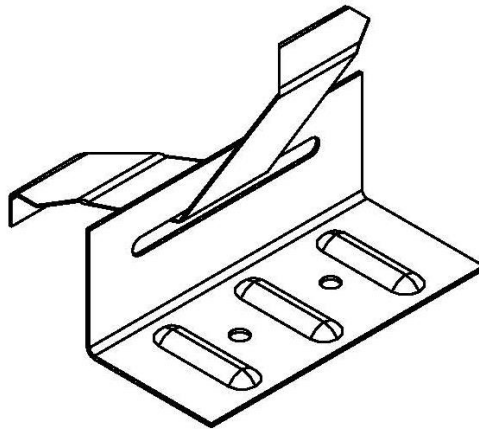

Figure 2. DMC 200S Butterfly Clip
DMC 200S Butterfly Clip (Table 1): The panels are secured to the deck with DMC 200S butterfly clips. The butterfly clips consist of a "base" and a "butterfly." Refer to Figure 2 for an illustration of the butterfly clip. The "base" is 18-gauge L-shaped galvanized steel that is 2" wide, 1-3/4" high, and 4-1/2" long. The base has a 1/4" wide by 3" long slot located 1/2" from the top for the "butterfly." The "butterfly" is 22-gauge galvanized steel that is 5.045" long by 0.929" tall with two return flaps. The "butterfly" is used to secure the metal roofing panel to the "base." Each DMC 200S butterfly clip is secured to the roof deck with two (2) minimum No. 10 x 1" long pancake head screws. The fasteners must be long enough to ensure a minimum penetration of 3 pitches of thread below the steel deck. The butterfly fly clips must be located approximately 3" from each end and 24" on center as indicated in Table 1. The female rib of the panel is placed over the male/clip assembly and seamed 180 degrees.